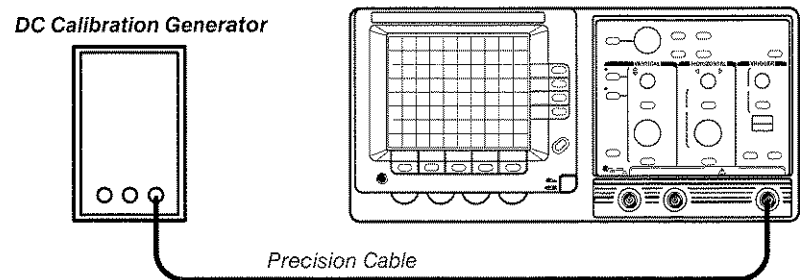

Figure 7-9: External Trigger Calibration Setup
12. Connect the DC calibration generator to the **EXT TRIG** input as shown in Figure 7-9.